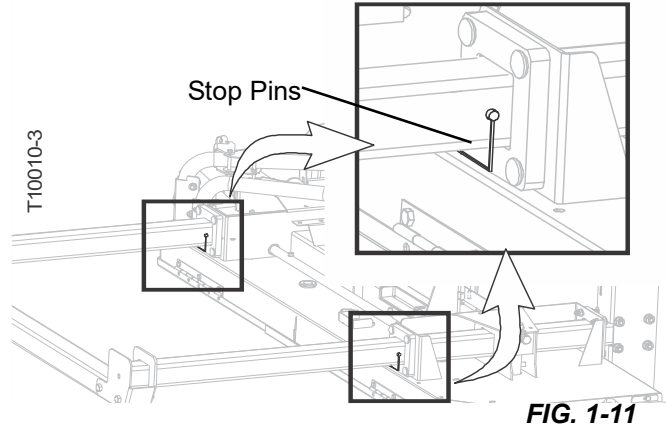

FIG. 1-11
**NOTE:** This prevents the sawhead from sliding up the mast while mounting it. See FIG. 1-11.